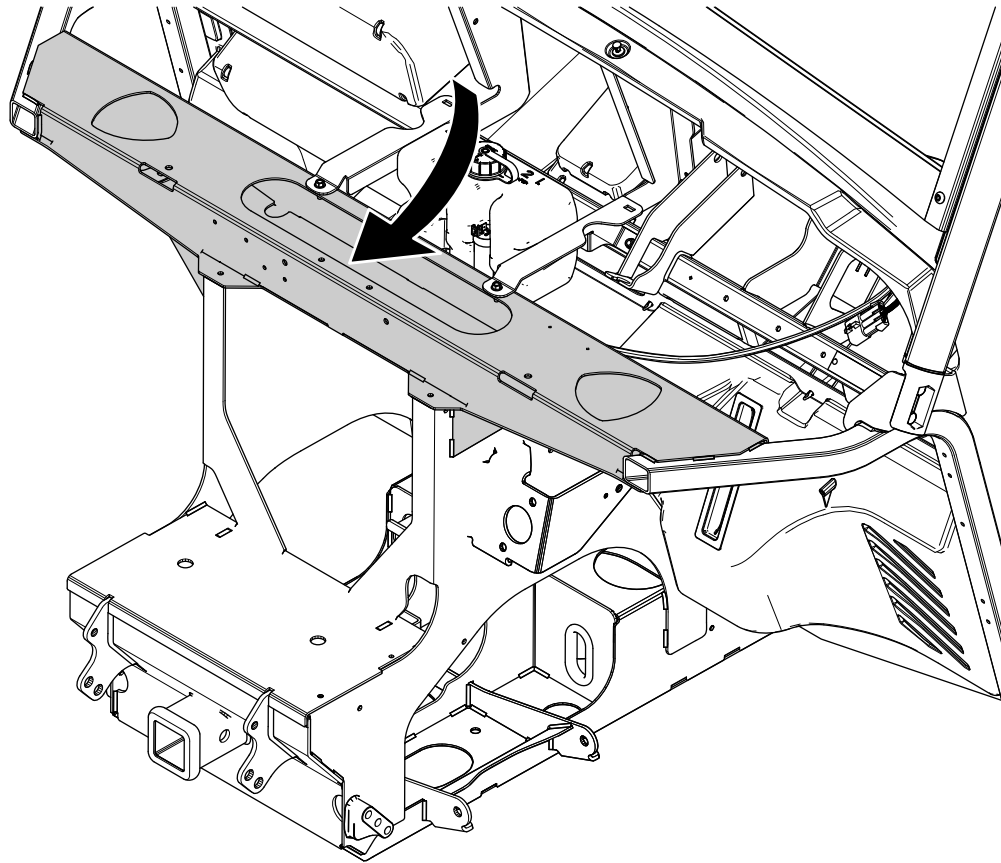

Figure 15
10. Connect the machine wire-harness connector labeled WASHER PUMP to the washer bottle. You will find the harness connector underneath the front frame shock tower (Figure 15).